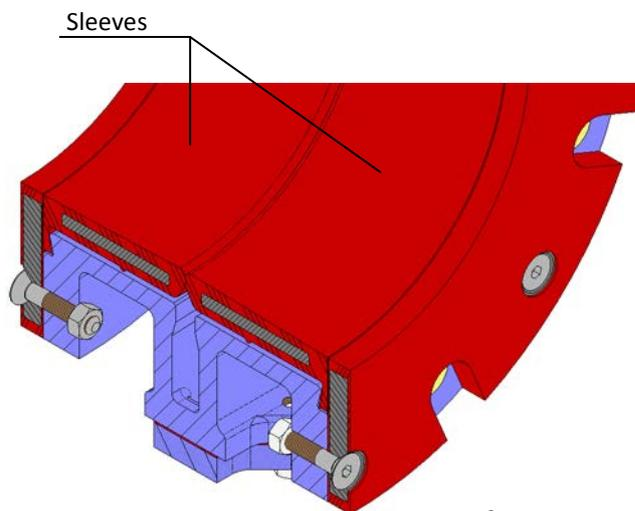

fig. 6
3. Place the through-conduit gate (2) in open position.
4. Loosen the screws which secure the sleeve retainers (8), in order to remove them and access the sleeves (7).
5. The sleeves (7) are replaced from outside the valve body (symmetrical two-piece seat). A drawing of the seat is shown below (fig. 6).
7. Once they have been greased with petroleum jelly, insert the new sleeves (7) of the same dimensions as those old ones.